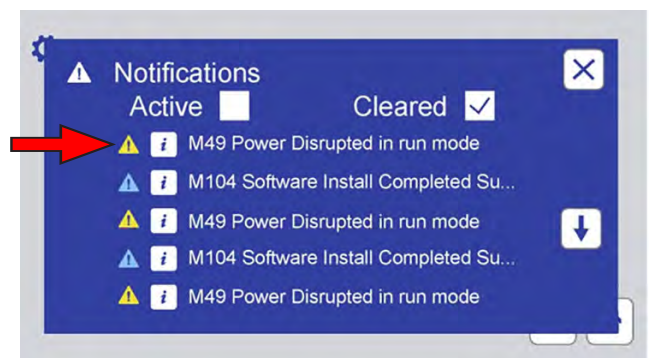

Figure 11.4b: The Notifications Screen lists notification information.
- The type, information icon, identification code (ex. M49), and name are displayed for each notification (Figure 11.4b).